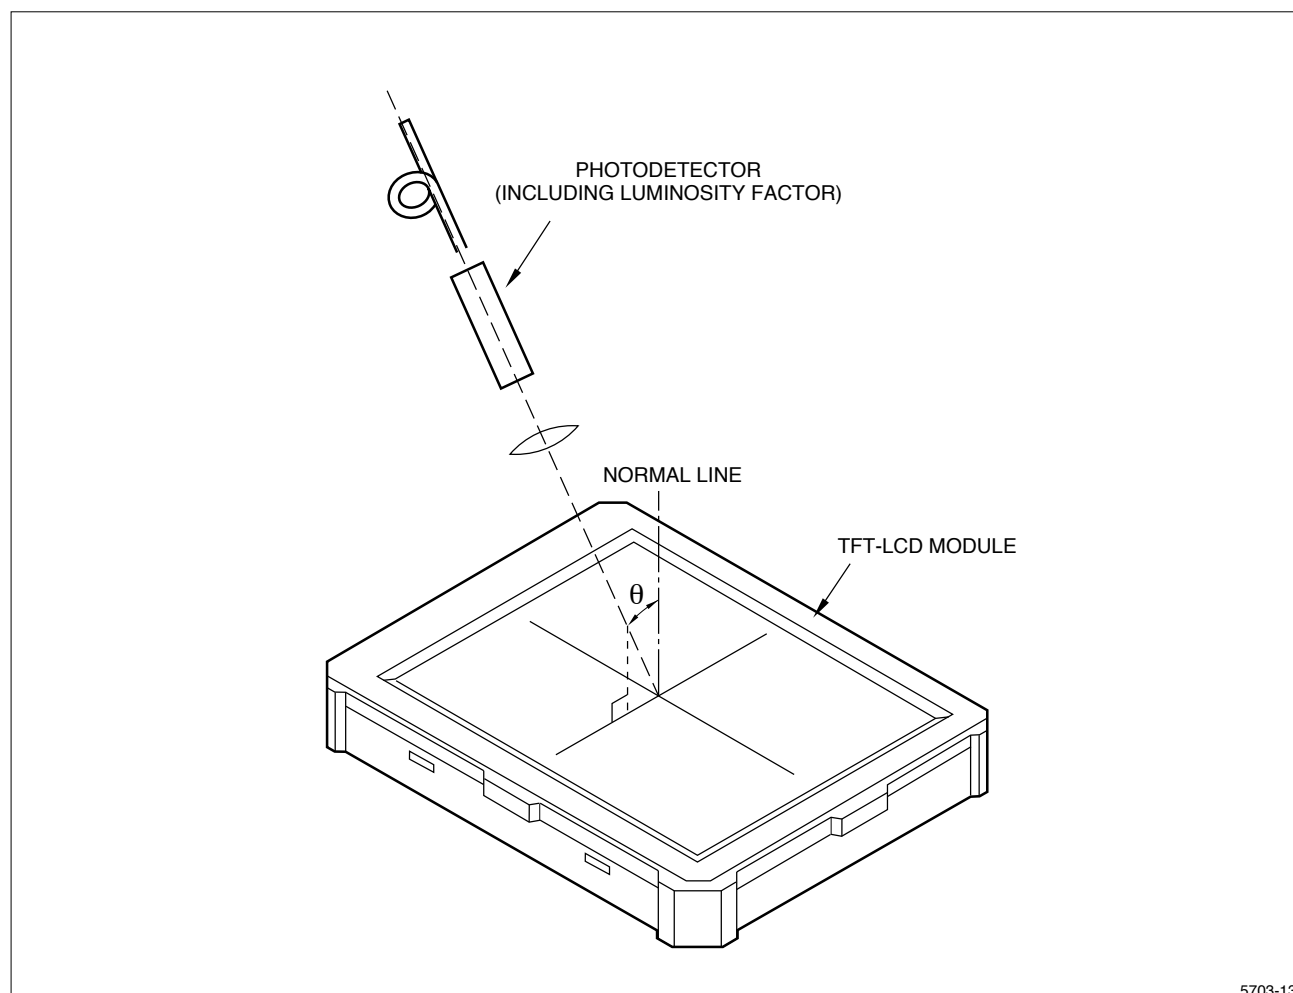

Figure 10. Optical Characteristics Measuring Method
- Contrast ratio is calculated with the following formula in the optical characteristics measuring method shown in Figure 10:
- Input signals are applied to the area measured to make the area 'white' and 'black' respectively, and change with time in the photodetector output is measured in the optical characteristics measuring method shown in Figure 10.